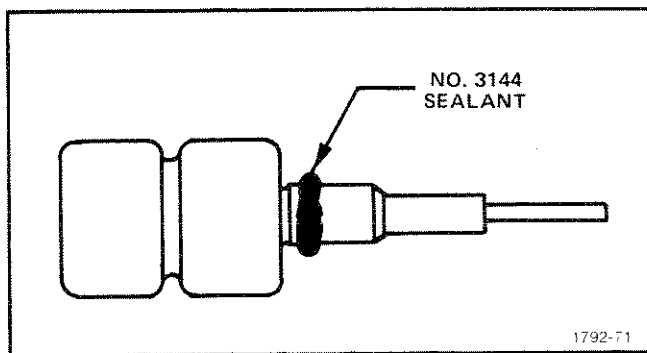

Fig. 5-18. Application of sealant to FINE control bushing.
### 18. Install FINE POSITION control (see Fig. 5-18 and 5-19)
1. Form a bead of No. 3144 sealant around the bushing threads as shown in Fig. 5-18.